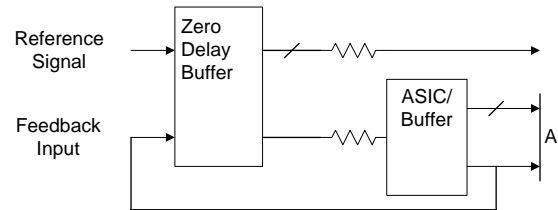

Figure 2. Six Output Buffer in the Feedback Path
Referring to *Figure 2*, if the traces between the ASIC/Buffer and the destination of the clock signal(s) (A) are equal in length to the trace between the buffer and the FBIN pin, the signals